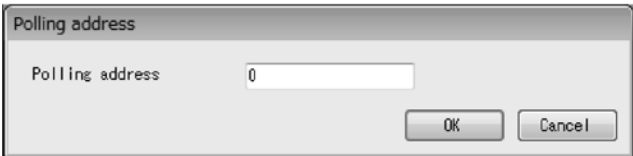

Fig.98
- ① Click "Setup (S)" on menu and select "Polling address" to display a window (Fig. 98).